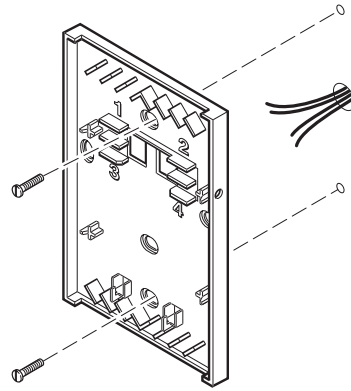

Figure-3 Direct-wall Mounting.
4. Using two appropriate screws (use drywall anchors as necessary), mount base plate to wall (Figure-3).